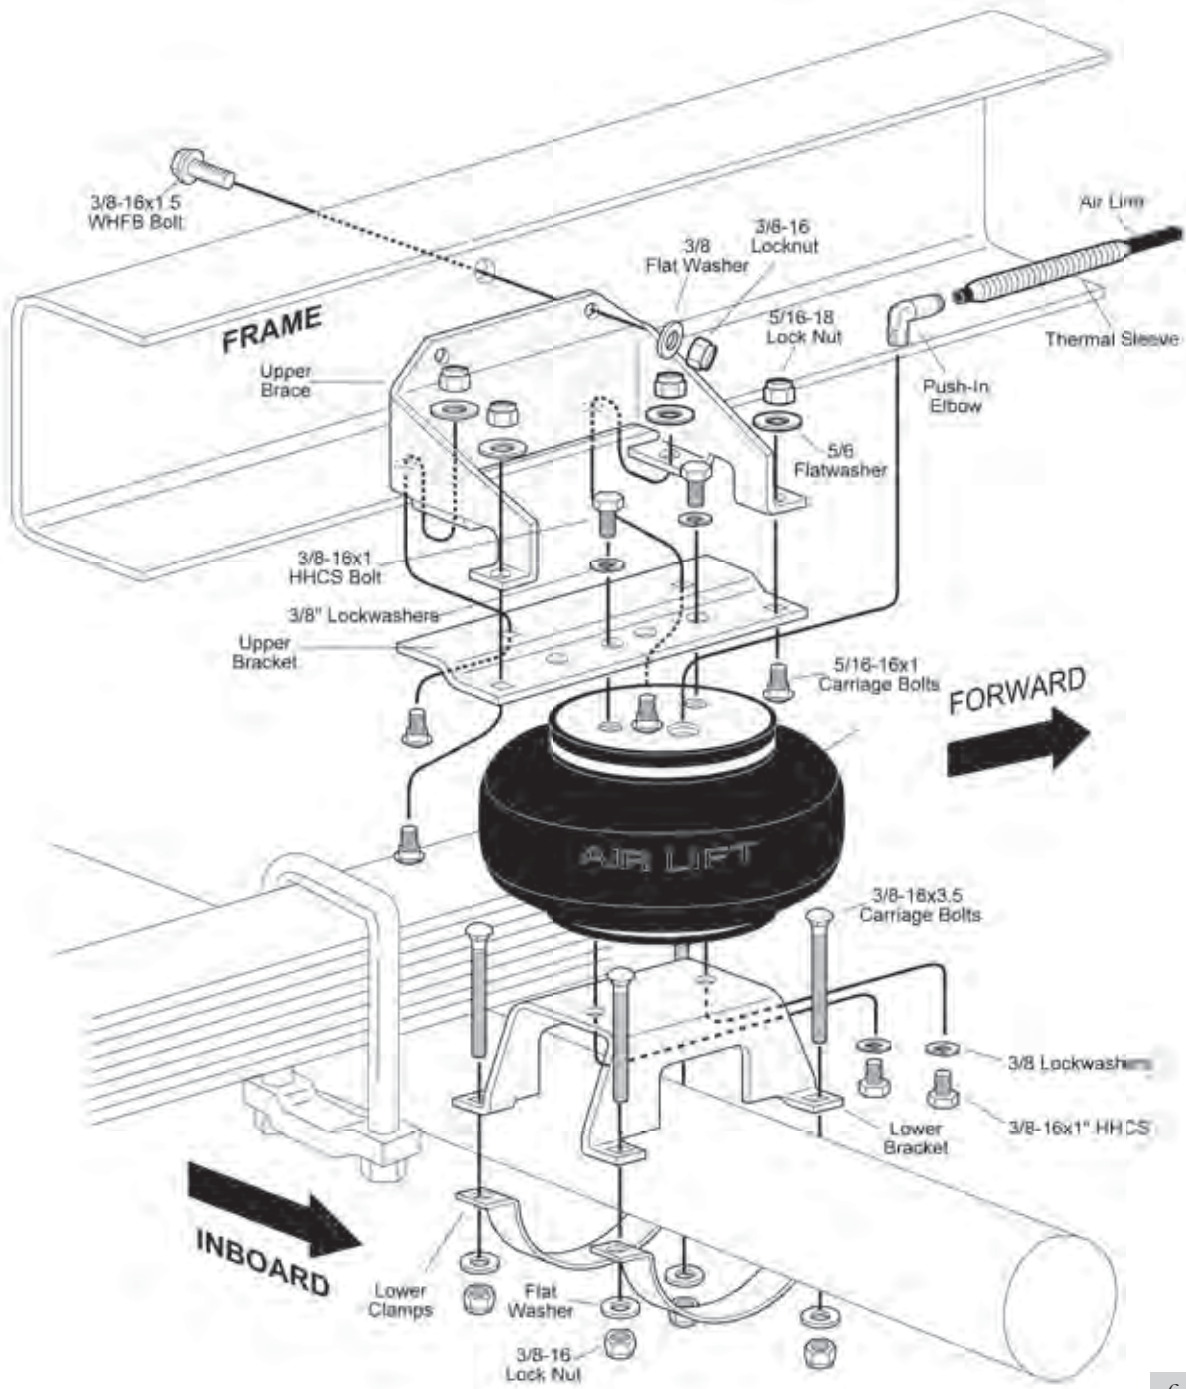
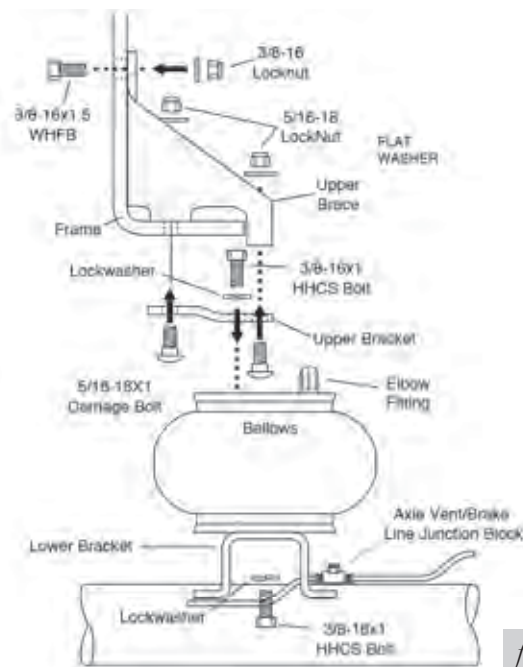
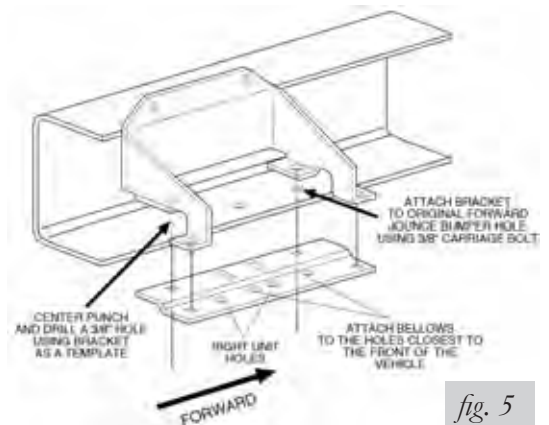

fig. 1
fig. 2
fig. 5
2. Position the bellows with the air port down. Secure the lower bracket to the bellows using two 3/8x16x1" hex head bolts, and two 3/8 lock washers (Figure 2). Assemble left and right units. Tighten to 20 ft-lbs.
3. Position the bellows with the air port up. Install the air fitting on the top side of bellows. Tighten finger tight plus two turns. Use a 9/16" open end wrench being careful to tighten on the metal hex nut only. DO NOT OVER TIGHTEN. This fitting is precoated with thread sealant. Be sure to position the air fitting so that it faces the front of the vehicle (Figure 1). Repeat for other side.
5. Insert 5/16" carriage bolt into the front outboard hole in each upper bracket (Figure 5).
6. Attach upper bracket to bellows using two 3/8-16x1" HHCS and lock washers (Figure 2). Assemble both sides, making sure to use the correct set of holes (Figure 5). Tighten to 20 ft-lbs.
7. Set the assembly into place on the axle, inboard of the leaf spring (Figure 1 & 2).
Insert upper brace into frame rail (Figure 1, 2 & 5). Slide it under any lines or wires so that it is against the frame. Align the bottom holes of the upper bracket with the front jounce bumper hole in the frame. Insert the front carriage bolt, inserted in step 5, through the frame rail and the upper brace. Loosely assemble unit with a 5/16" lock nut. Drill remaining hole with a 5/16" drill bit, using bracket as a template. Insert another carriage bolt up from the bottom through upper bracket, frame and upper brace. Secure loosely with lock nut. Some vehicles will have an existing hole in the frame that will match one of the holes in the upper brace. If no hole exists, drill one 3/8" hole using the upper bracket as a template (Figure 5). Insert a 3/8x1.5"WHFB through the frame from the outside. Attach 3/8" lock nut and securely tighten this bolt to 20 ft-lbs., insuring that the brace fits tightly against inner frame rail (Figure 1). Tighten nuts holding upper brackets, frame and inner brace securely. Insert two 5/16" carriage bolts upward through the other holes in the upper bracket and upper brace and retain with lock nuts. Tighten to 20 ft-lbs.
Align the lower bracket to obtain the best alignment so that the top and bottom bellow mounting plates are parallel both vertically and horizontally. Hold lower bracket in place while securing carriage bolt with the lock nuts (Figure 1).